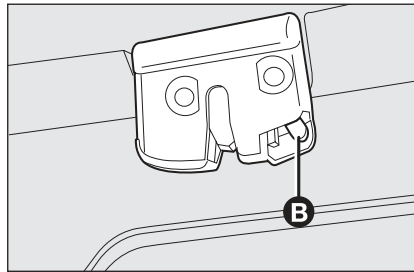

fig. 112
- operate lever **B**-fig. 112, to obtain tailgate mechanical release, operating from the inside of the boot.